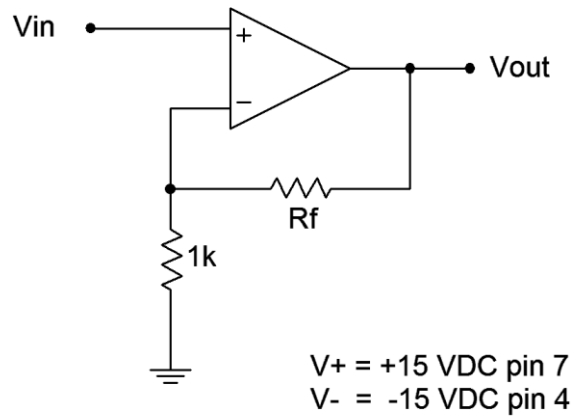

Figure 1
1. The voltage gain of the non-inverting amplifier can be determined accurately from the feedback resistors R_i and R_f . Calculate the voltage gains for the amplifier of Figure 1 for the R_f values specified, and record them in Table 1.
2. Assemble the circuit of Figure 1 using the $4k7\ \Omega$ resistor.
14. Return to the amplifier of Figure 1 with R_f set to $10\text{k}\Omega$ and replace the general purpose generator with the low distortion sine source set to 1 kHz . Adjust its output level so that the output of the op amp is approximately 0 dBV .